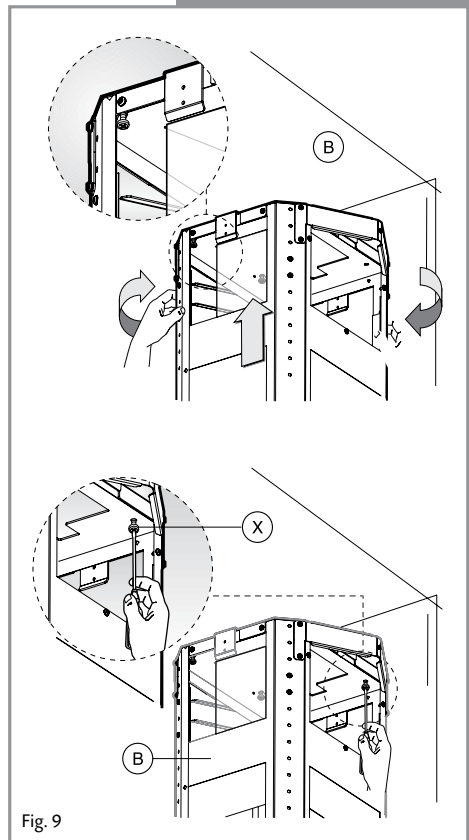

Fig. 9
4. Fit the upper support section (B) into position on the 3 screws and rotate it into position, as shown in Fig 9.
5. When in position, tighten the 3 main screws and fit an additional screw (X) to fix the support plate in position.